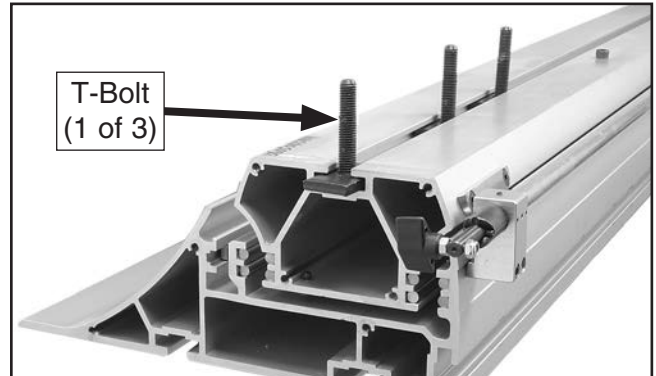

Figure 17. T-slot along bottom of table.
2. Insert (3) M12-1.75 x 50 T-bolts into T-slot along bottom of sliding table (see **Figure 17**), and space them the same distance apart as mounting holes in cabinet frame.